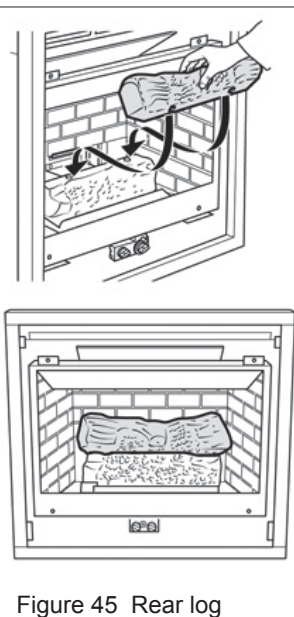

Figure 45 Rear log
2. Place the rear log in position locating the two pins in the top of the wedge into the holes in the rear log. See figure 45.